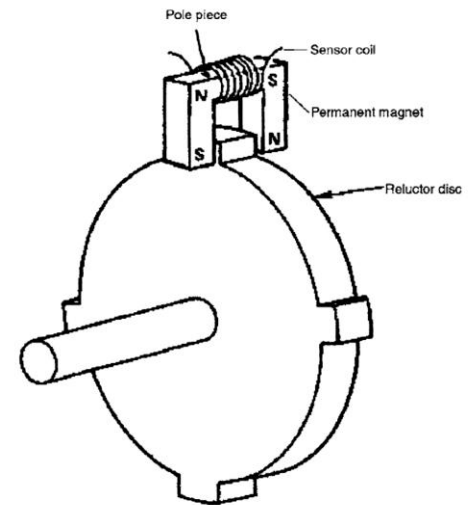

Fig. 5.1 The basic principle of the variable reluctance sensor
- Air has a greater reluctance (resistance to magnetism) than iron and this fact is made use of in many sensors. The basic principle of operation of a variable reluctance type sensor (Fig. 5.1) may be understood from the following description.